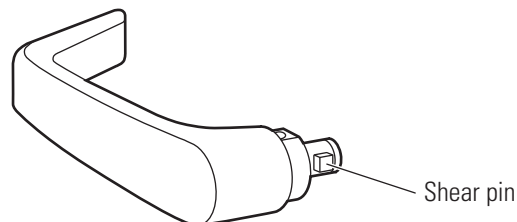

Figure 10.16 Removing and reinstalling the shear pin
1. Make sure that the shear pin is positioned on the lever so that the head faces the opposite direction of the lever handle. See Figure 10.16.
2. Remove the shear pin from the lever. See Figure 10.16.
1. Insert the shear pin into the lever, making sure that the shear pin is positioned in the lever so that the head faces the opposite direction of the lever handle. See Figure 10.16.